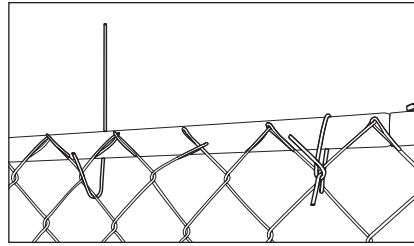

FIG. 12
4. Use metal tie wires (**K**) to secure the chain link mesh to the top, bottom, gate and all sides of kennel. Position the ties between knuckles (**FIG 12**). Secure mesh horizontally and vertically.